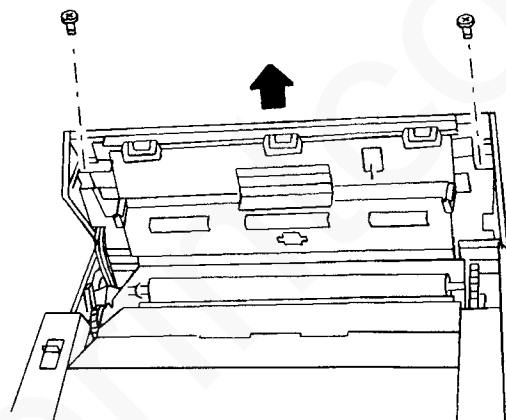

Figure 1. Control panel assembly
3. Remove two screws (Figure 1) and separate the control panel assembly from the scanner.